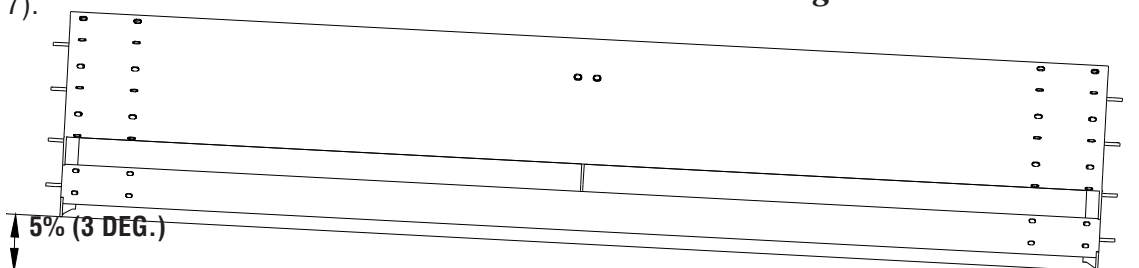
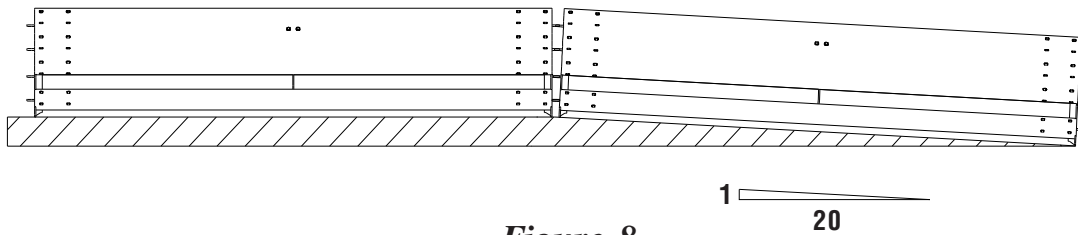
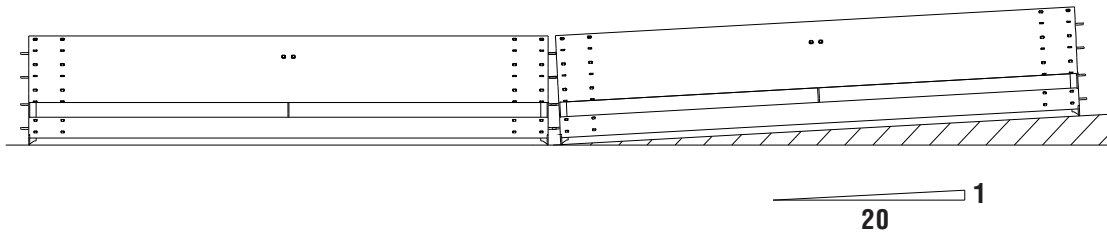

Figure 7
Figure 8
Figure 9
For Vulcan Gates placed on slopes that exceed 5% (3 deg.) call Customer Support (888) 323-6374. (Figure 7).
The Vulcan Gate has the ability to conform to a hill up to 20:1 (see figure 8). Please note the maximum longitudinal slope in Figure 7.
The Vulcan Gate has the ability to conform to a ditch up to 20:1 (see figure 9). Please note the maximum longitudinal slope in Figure 7.